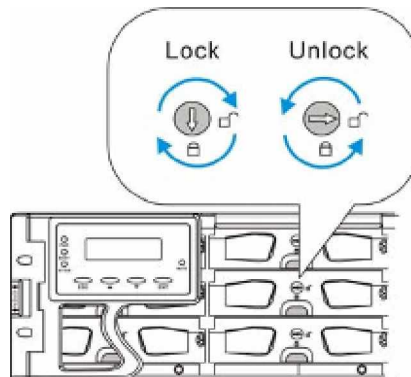

Figure 5-20: Drive Tray Key-lock Rotation
Step 2. Open the key-lock (See **Figure 5-20**) by turning the key-lock on the front of the drive tray until the groove on its face is in a horizontal orientation.